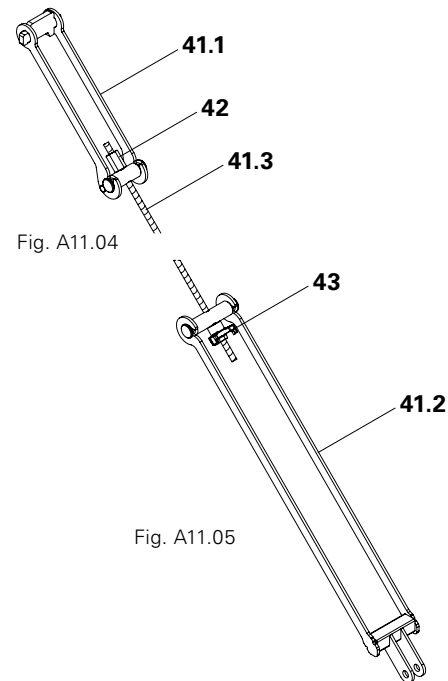

Fig. A11.05
7. Insert Tie Yoke of the Tension Unit Lower Part onto the Tie Rod, secure with Triple Wingnut DW 15 (43), and attach to the Tension Unit Lower Part. (Fig. A11.05 + A11.06)